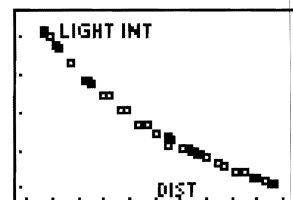

Figure 5
- Turn off the STAT PLOT of L_2 versus L_3 and turn on the STAT PLOT of L_4 versus L_3 (Plot3) as shown in Figure 5. Press **ZOOM** 9 to select the ZoomStat window. Discuss how the data illustrates an inverse relationship. Find a best fit equation for the data by going to STAT CALC and computing PwrReg L_4, L_3 .